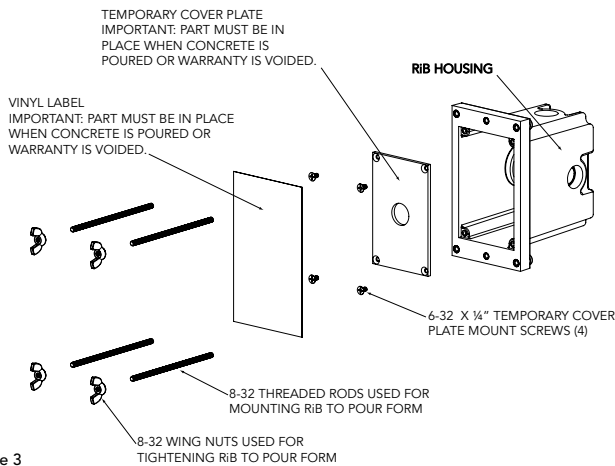
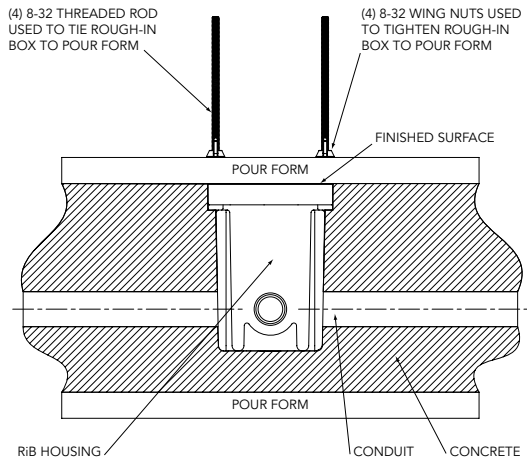

Figure 3
Figure 4
**IMPORTANT NOTE:** Internal supports, temporary cover plate, and vinyl label must remain in place during pouring and curing of concrete (fig. 3).
1. Install (4) threaded 8-32 rods (supplied) into RiB housing by piercing through vinyl label in specified location. Hand tighten until secure.
2. Attach RiB housing to pour form using (4) wing nuts provided so the front face of the RiB housing will be flush with the finished surface (fig. 4).
3. Connect conduit to RiB housing (fig. 4).
**NOTE:** Do not pump or drop concrete directly on top of the RiB housing (fig. 4).